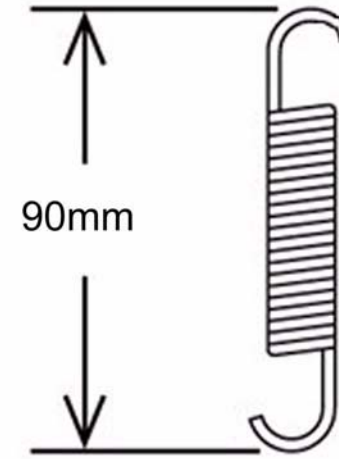

Figure 3 Measure the distance between the outer ends of the spring hooks
6. Use the paper measuring gauge to check the length of both the Right and the Left Nip Springs. Measure from the outer ends of the spring hooks (Figure 3). If either measurement is less than or greater than the specification (90mm), perform the Adjustment.